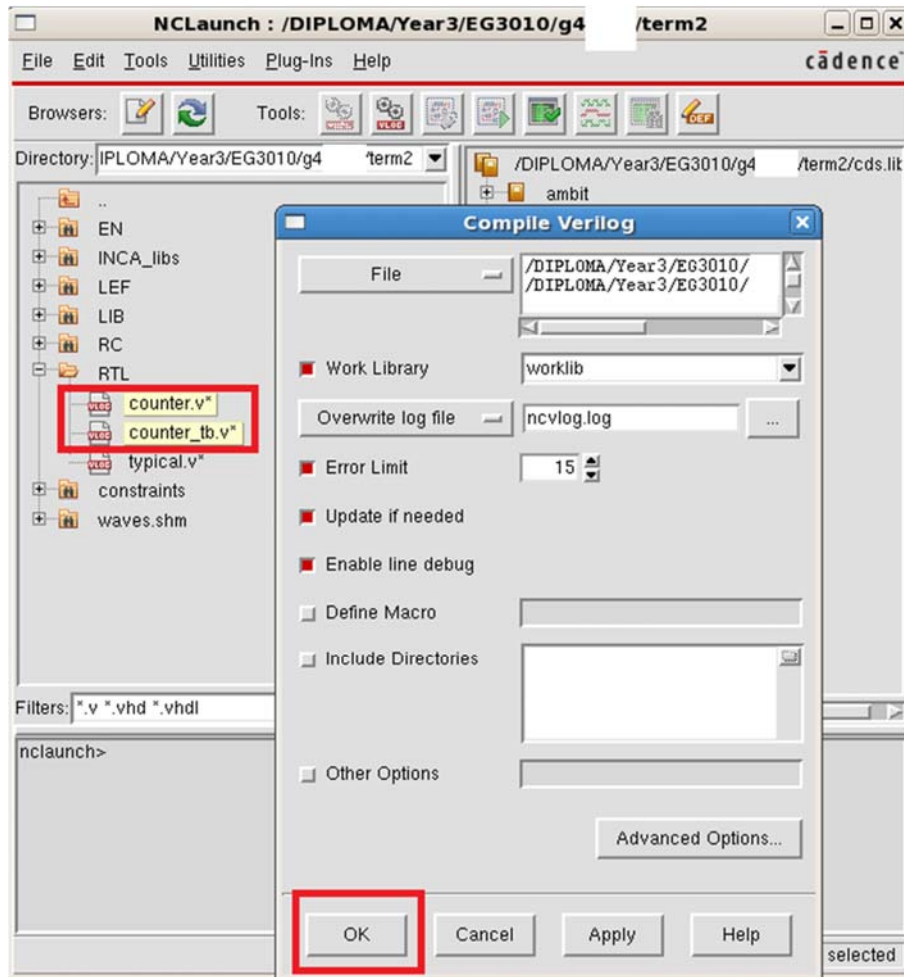

Figure Lab7-4 NCLaunch Window
5. Select **counter.v** and **counter_tb.v** (as shown in Figure Lab7-4). **Right-click**→**NCVlog**. Then click **OK**. This will compile the verilog files to C code for faster simulation.